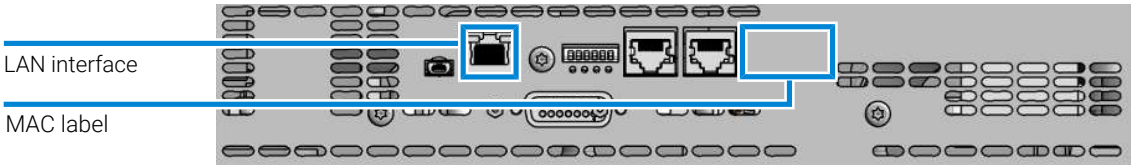
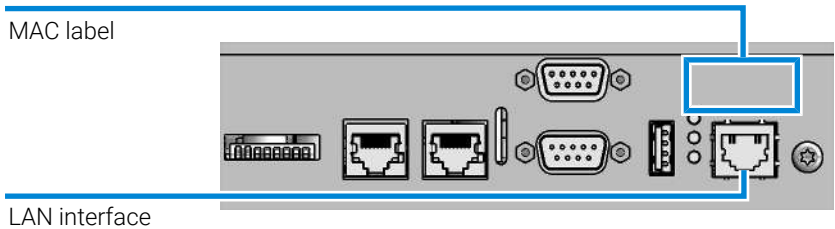

Figure 71: Location of LAN interfaces and MAC label (board with 6-bit configuration switch)
Figure 72: Location of LAN interfaces and MAC label (board with 8-bit configuration switch)
- 1 Note the MAC (Media Access Control) address for further reference. The MAC or hardware address of the LAN interfaces is a world wide unique identifier. No other network device will have the same hardware address. The MAC address can be found on a label at the rear of the module (see Figure 71 on page 502, or Figure 72 on page 502).